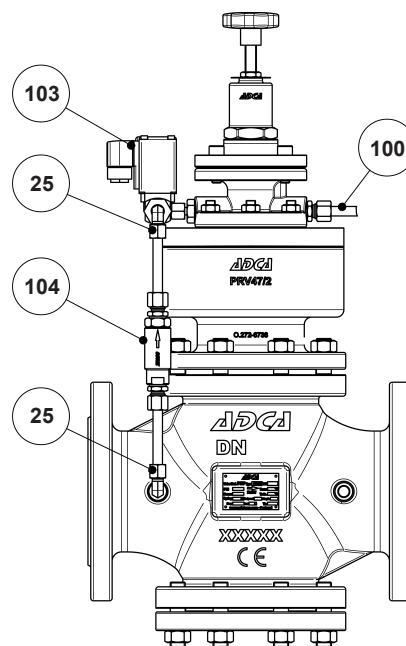

Fig. 7
**PRV47/2E with solenoid valve for remote closure (Fig. 7)**